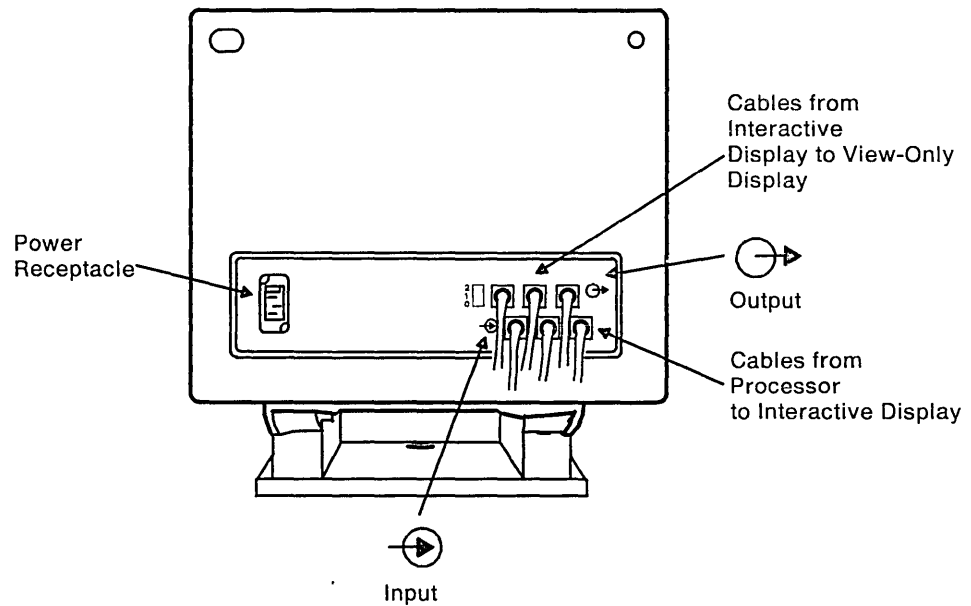
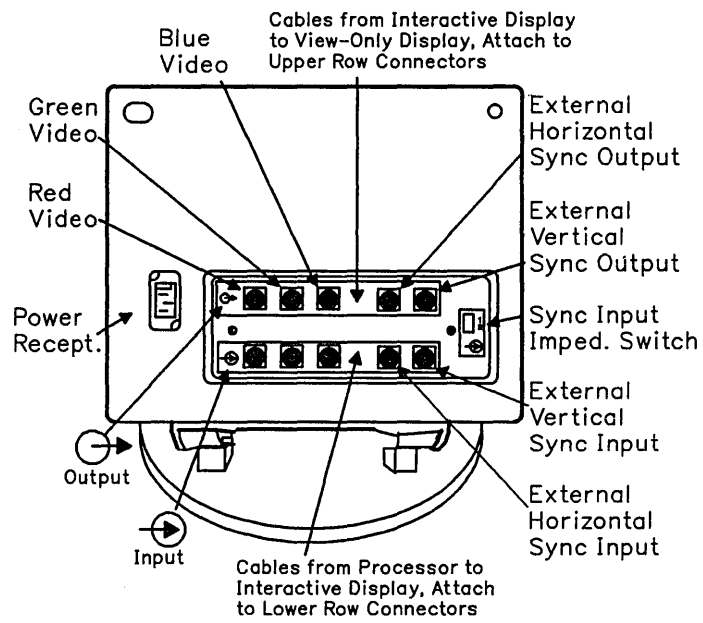

Figure 2-3. Power Receptacle and Cable Connections on the 6091-023 Display
Figure 2-4. Power Receptacle and Cable Connections on the 6091-019 Display
1. Attach the red, green, and blue video cables from your processor to the bottom three connectors on the back of the interactive display. These connectors are marked for input cables. (See Figure 2-3 or Figure 2-4 for the input symbol you need to locate).
2. If using view-only displays, connect video cables to the top three connectors on the back of the interactive display. These connectors are marked as output cables. (See Figure 2-3 or Figure 2-4 for the output symbol you need to locate).
1. Plug the power cord into the power receptacle at the back of the display. (See Figure 2-3 on page 2-3 for the location of this receptacle).